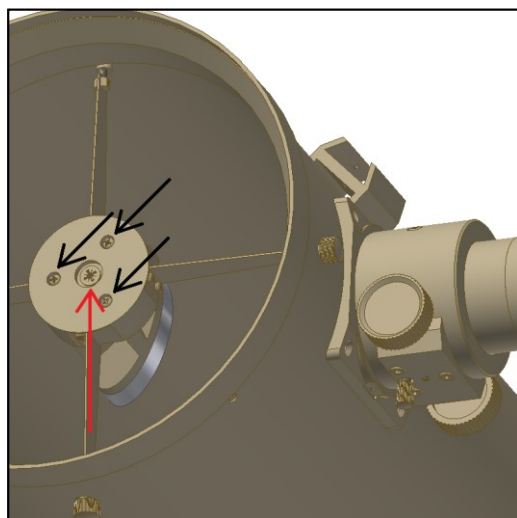
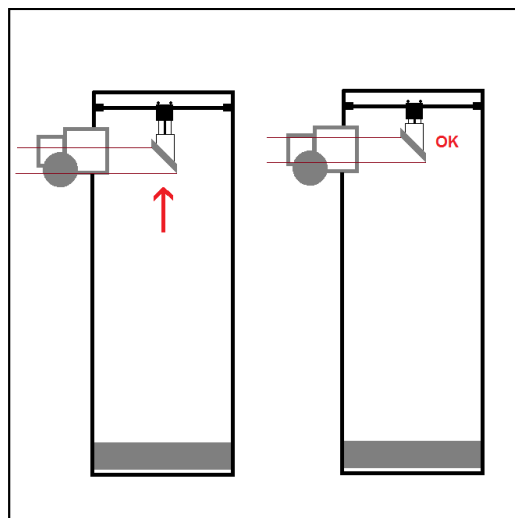

Figure 5. Adjust secondary mirror.
Figure 6. Move secondary up-down if necessary.
3. Using the laser collimator. Start by checking if the secondary mirror is centred under the focuser (Figure 6). Peek through the focuser's aperture and centre your eye. The "circle" (secondary mirror) as seen from the focuser should be centred with the focuser's draw tube (concentric). Usually the secondary mirror is aligned with the focuser's draw tube when the telescope is assembled at the factory, but if necessary move the secondary mirror up-down along the tube. The secondary's mirror cell central bolt should be used for this matter (figure 5 red arrow). Untighten it to lose the secondary mirror, notice that by doing this the secondary mirror can rotate. Use the three collimation screws on the secondary spider (figure 5) to make sure the secondary is really round when looking through the focuser barrel. Now insert the laser collimator in the focuser (figure 3). Turn the laser beam on. The laser will hit the secondary mirror and will reflect heading for the primary mirror (figure 7 -1). If the red laser beam comes out through the telescope's aperture, it means that your telescope is extremely out of collimation.
- 1) Use the secondary mirror's adjustment screws (figure 5) so that the red dot on the primary's mirror surface is at the centre of the primary mirror (figure 7-2). The beam red circle should show up on the laser viewer (figure 7-2 top)